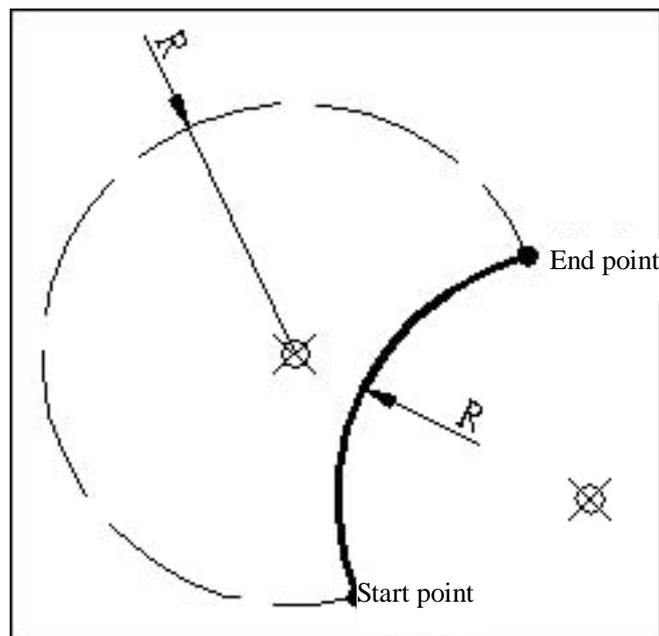

Fig. 3-4-3
- I If X (U) and Z (W) are not entered and R is used to define the radius, axis X and Z won't move when instruction G02/03 is executed. If R is not entered and I and K instructions are executed, the locus created by executing G02/G03 will be a full circle (360°);
- I If R instruction R is used, the loci would be two circular arcs, one over 180° and the other less than 180°. In defaults of this system, circular arc less than 180° will be effective (see Fig. 3-4-3). If the end point is not on the arc defined by R, the system will alarm.